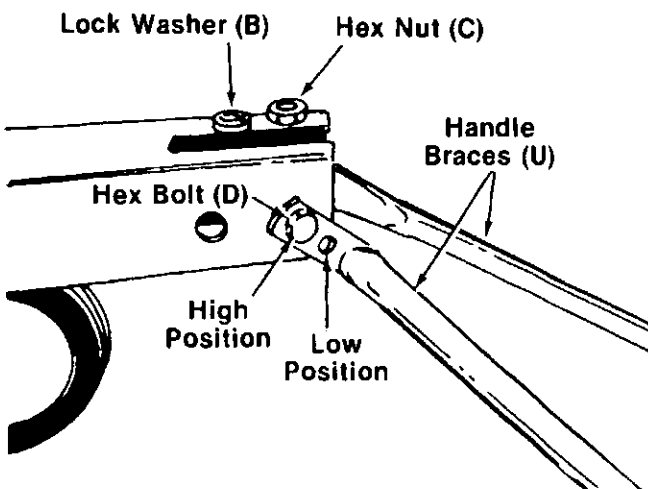

FIGURE 9.
9. Attach the right and left hand braces (U) to the tailpiece. The braces have two holes to provide handle height adjustment. Select hole for either high or low position. Secure to tailpiece with hex bolts (D), lock washers (B) and hex nuts (C), finger tight only (do not tighten). See figure 9.